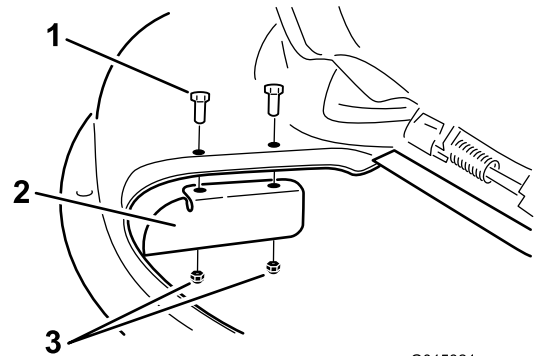

Figure 23
Note: Certain models will have the cutoff baffle installed (Figure 23). Proceed to the next procedure if a cutoff baffle is installed.
- Install the cutoff baffle to the mower deck with 2 bolts (5/16 x 3/4 inch) and 2 lock nuts (5/16 inch) (Figure 23).